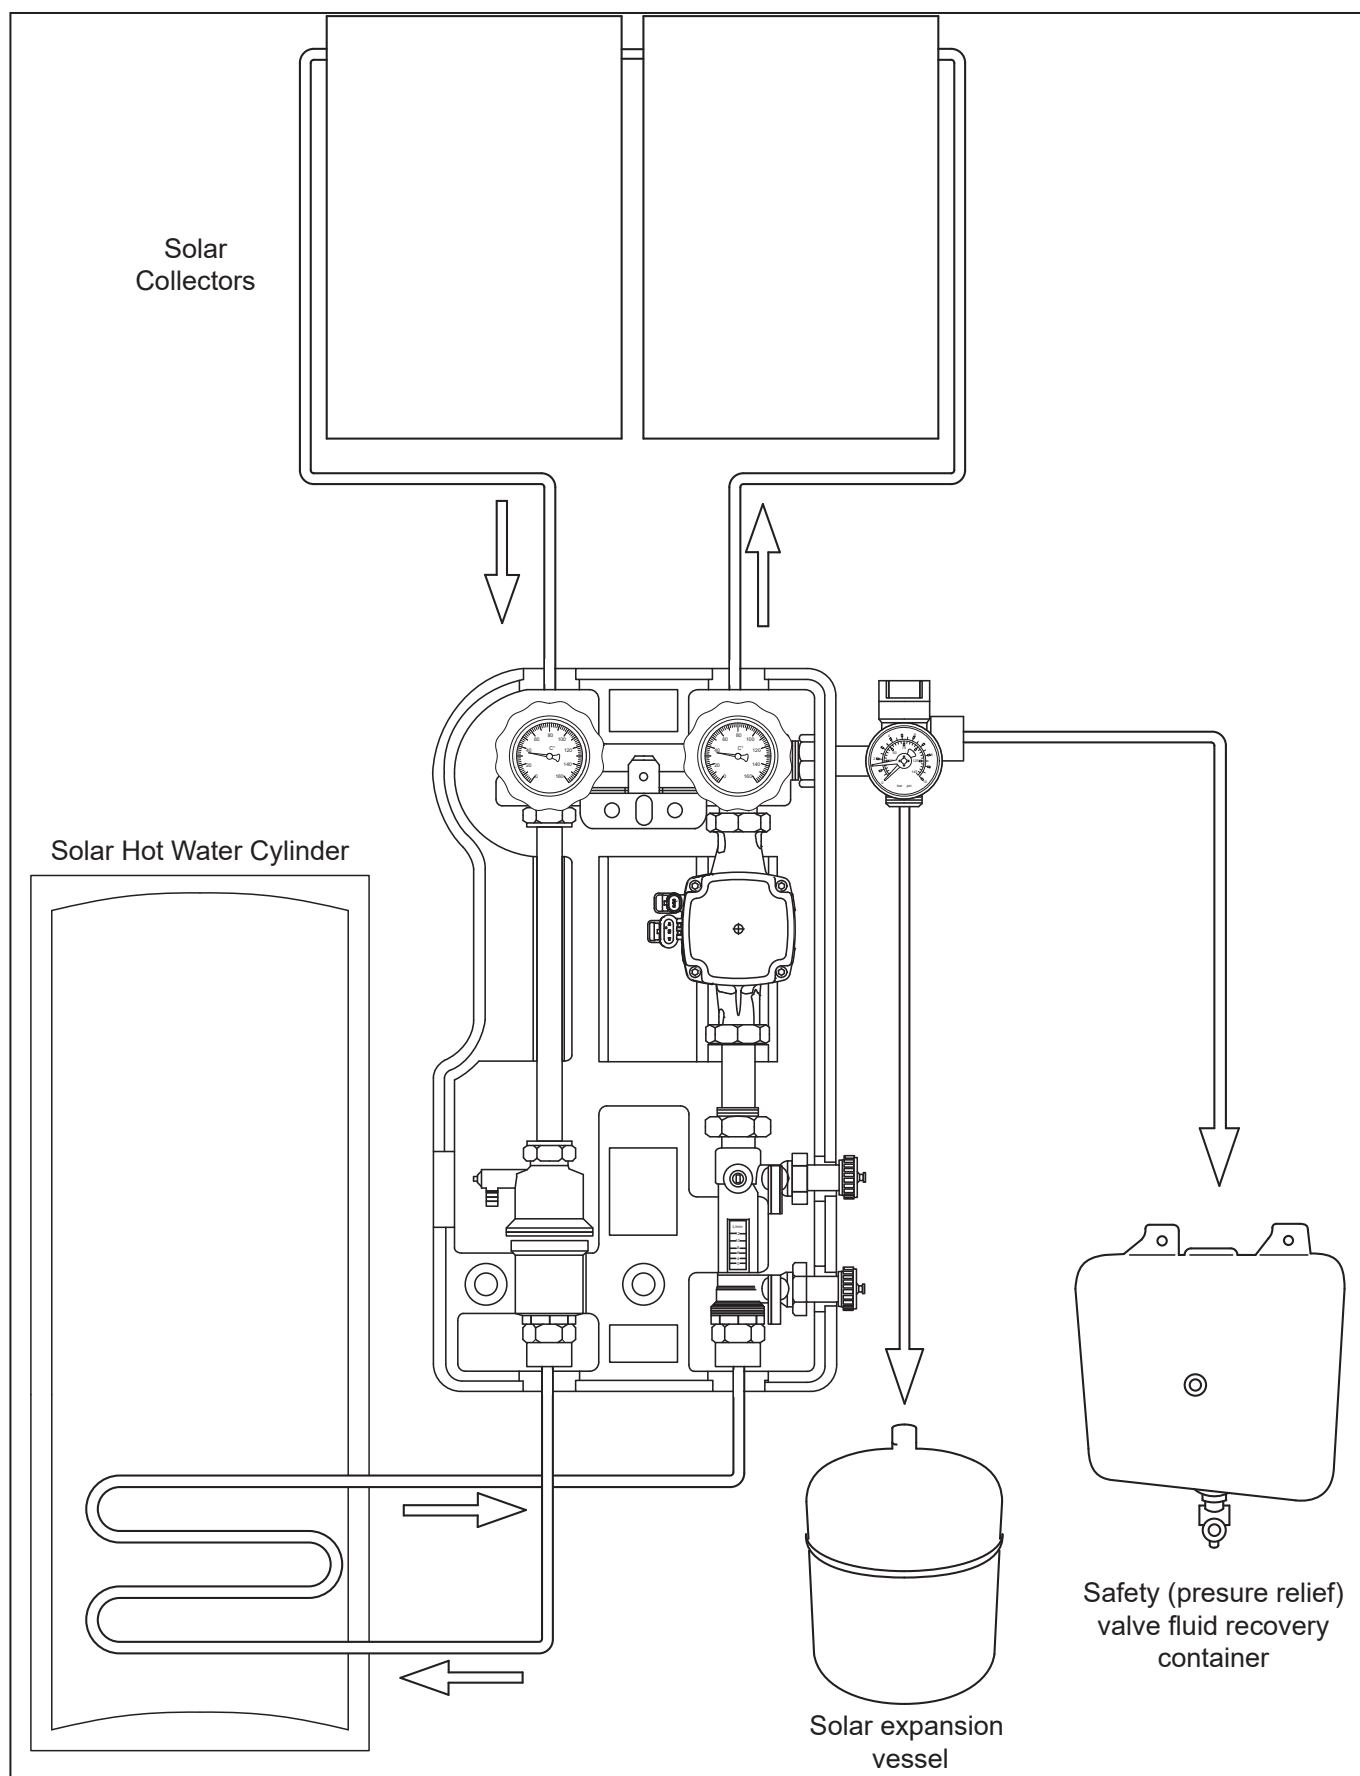

Figure 3-5: System connections to solar pump station
The flow from the solar collectors to the DHW cylinder should be made on the left handside of the pump station, and the return from the DHW cylinder back to the collectors should be made on the right handside of the pump station (view from front). Refer to Figure 3-5.
**The expansion vessel must be located BELOW the connection on the Grant Solar Pump Station with the vessel connection pointing upwards. Refer to Figure 3-5.**